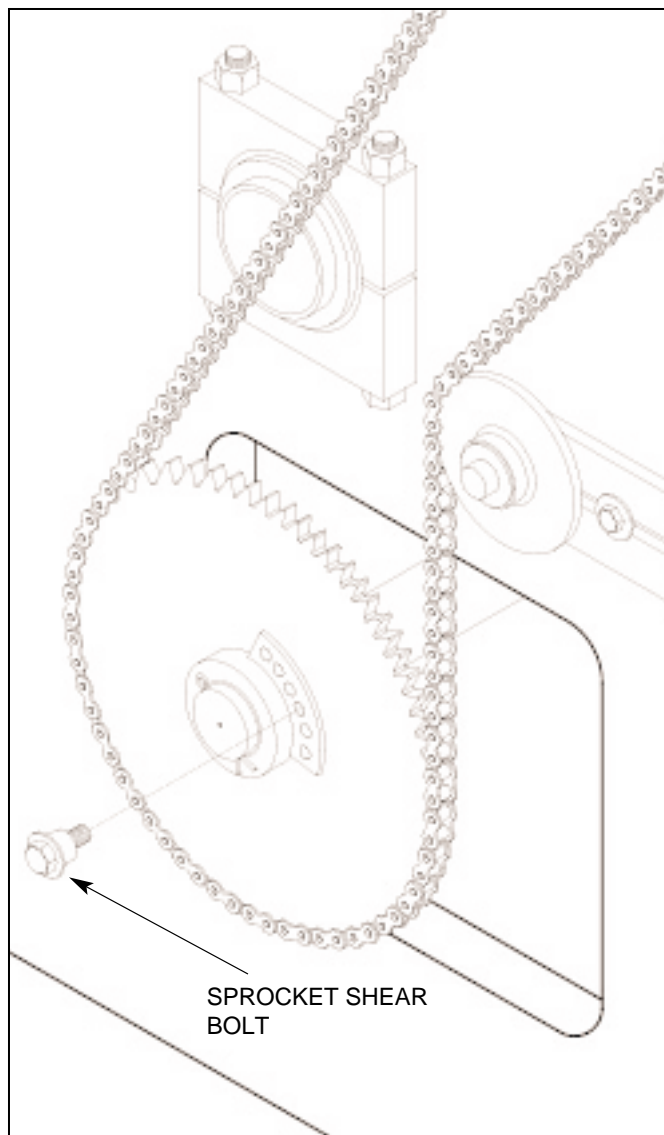

Figure 4.57 REMOVING SHEAR BOLT
4.4.18 Remove the shear bolt from the pallet feeder drive sprocket (see figure 4.57).